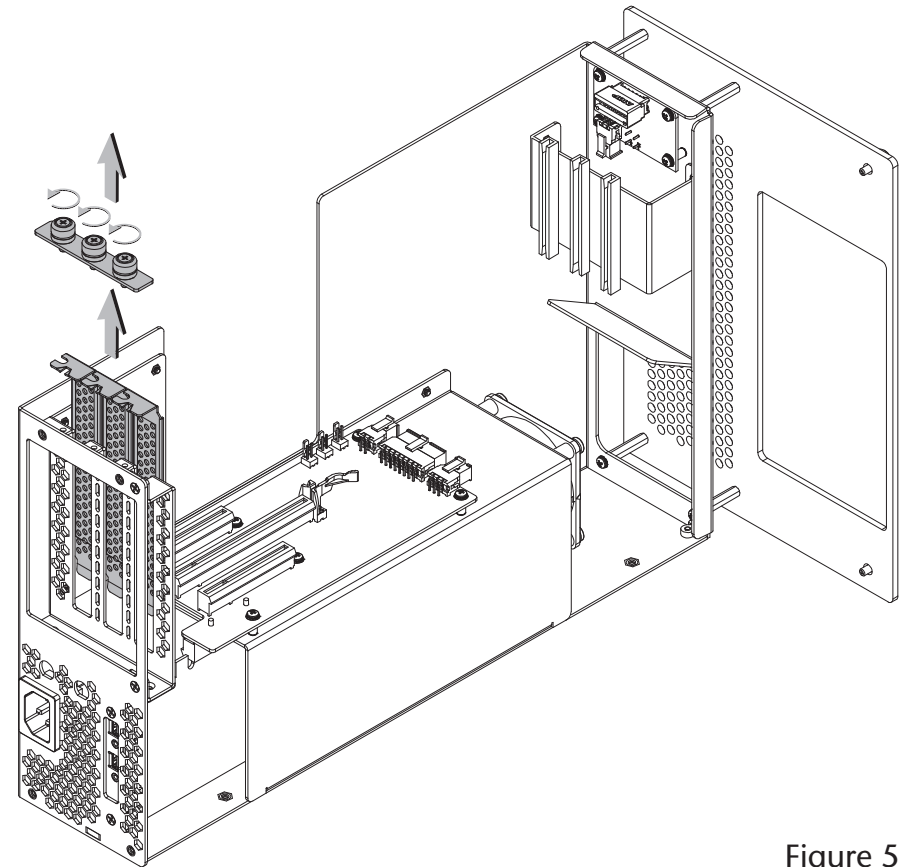

Figure 5
1. Turn the PCIe card expansion module so the PCIe slots are facing up (Figure 5).
2. Loosen the three thumbscrews of the PCIe card bracket locking plate, and then remove and set it aside (Figure 5).
3. Remove and set aside the port access covers (Figure 5).